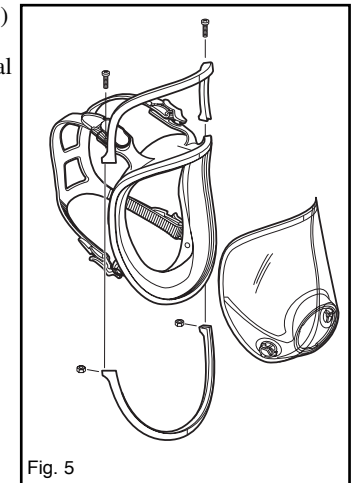

Fig. 5
2. Position bottom frame, aligning center vertical mark, and press in place. (Fig. 5)